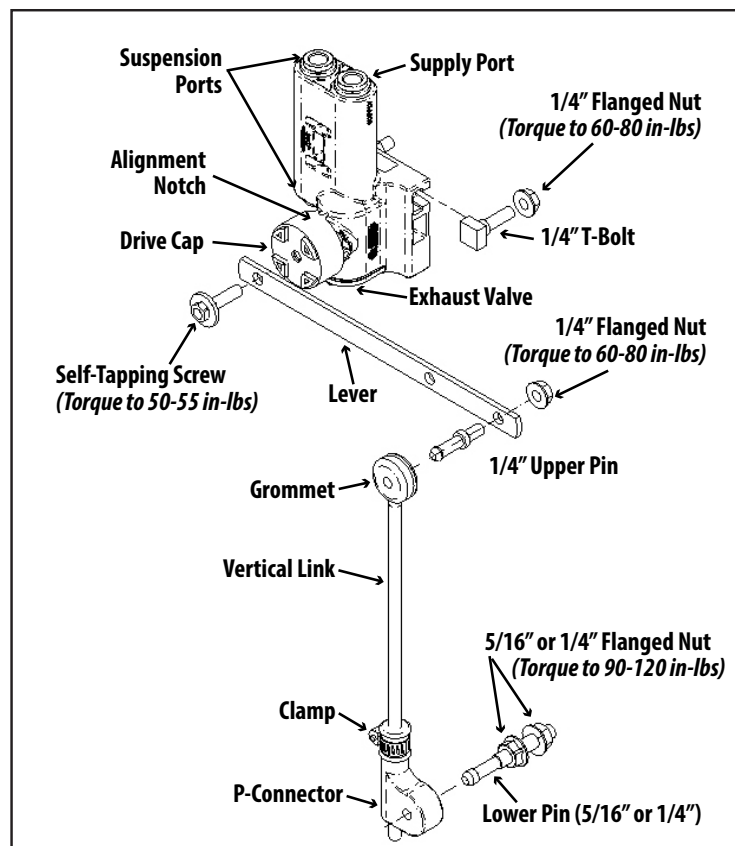

Figure 1.
1. Check location of alignment notch on drive cap. Lever should rotate up to fill ("FILL") and down to exhaust ("EXH"). Place lever into drive cap slots and attach. Torque tapping screw to 50-55 in-lbs (Figure 1).
3. Attach vertical link "P-Connector" to lower mounting bracket with the lower pin. Torque to 90-120 in-lbs (Fig 1). With lever arm in the center position, slide vertical link (rod) up-or-down through P-Connector until the grommet is at the same height as lever. Connect vertical linkage to lever with upper pin. Torque to 60-80 in-lbs (Fig 1).